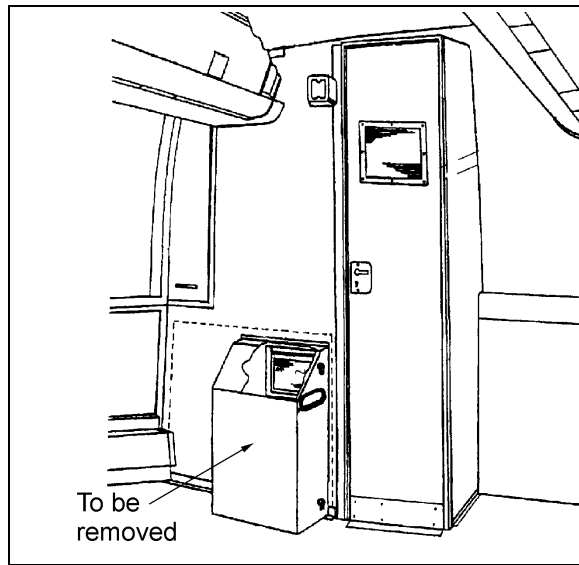

FIGURE 1: BIN REMOVAL
1. Locate at back of vehicle, the garbage bin fixed to the lavatory wall. (refer to figure 1). Remove this garbage bin.